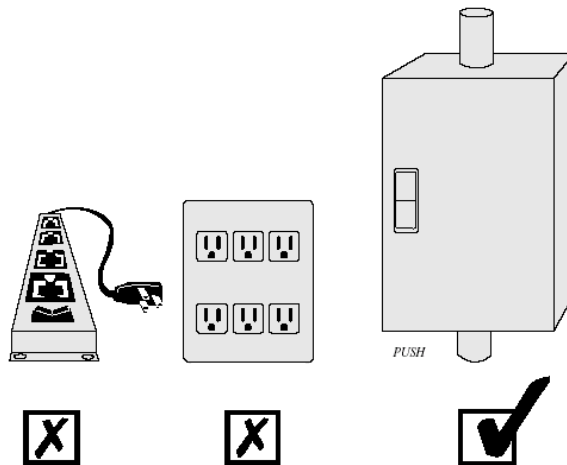

Figure 10
2. Please connect UPS input terminal to utility power switchboard close. (Figure 10).